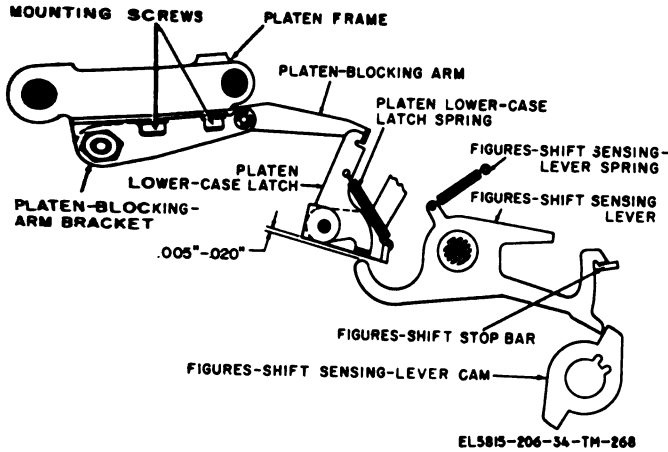

Figure 3-196. Platen-blocking-arm bracket adjustment (TT-4B/TG, TT-4C/TG, TT-335/TG, TT-537/G, TT-698A/TG, and TT-698B/TG ).
**3-228. Platen-Blocking-Arm Bracket Adjustment (TT-4B/ TG, TT-4C/ TG, TT-335/ TG, TT-537/ G, TT-698A/ TG, and TT-698B/ TG) (fig. 3-196)**